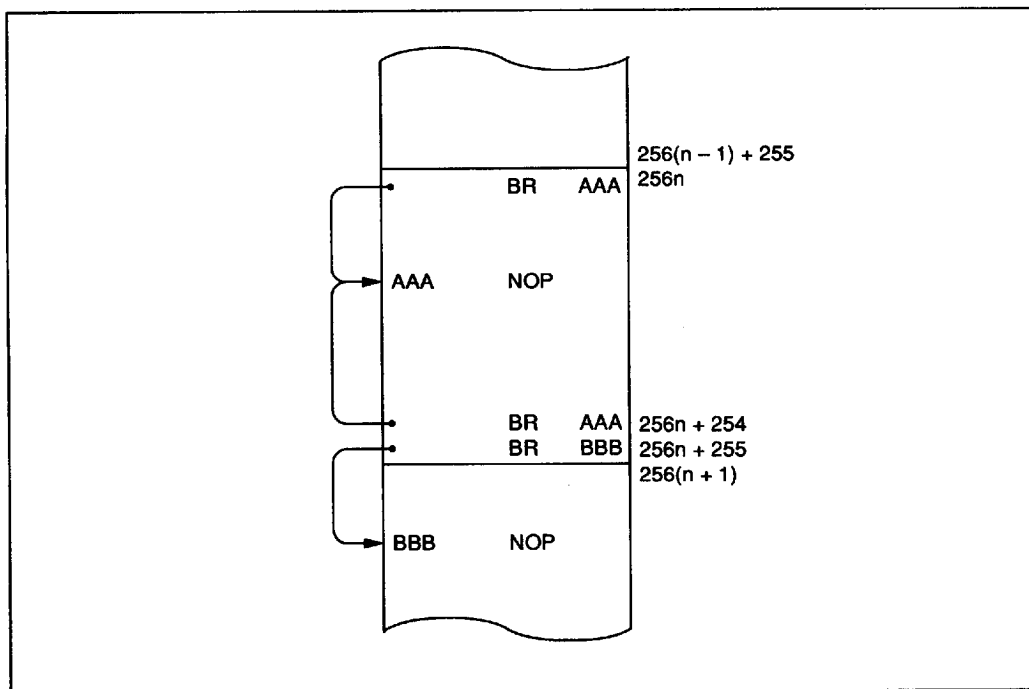

Figure 67 Branching when BR Instruction is on a Page Boundary
**Current Page Addressing Mode:** The MCU has 64 pages of ROM with 256 words per page. A program can branch to any address in the current page by executing the BR instruction. This instruction replaces the eight low-order bits of the program counter (PC7–PC0) with eight-bit immediate data. If the BR instruction is on a page boundary (address 256n + 255), executing that instruction transfers the PC contents to the next physical page, as shown in figure 67. This means that the execution of the BR instruction on a page boundary will make the program branch to the next page.